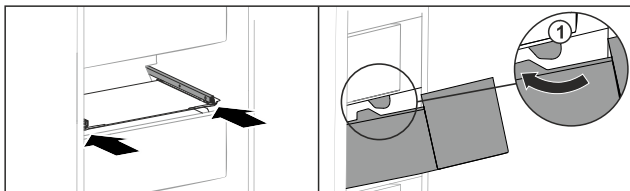

Fig. 138
- ▶ Guide drawer around the stoppers Fig. 138 (1).